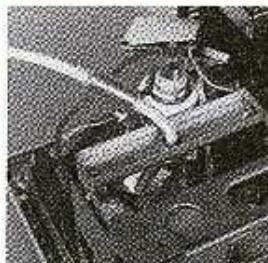

Figure 3-19
- c. Mount the cable retention plate to the chassis and tighten down the two screws (Figure 3-19).